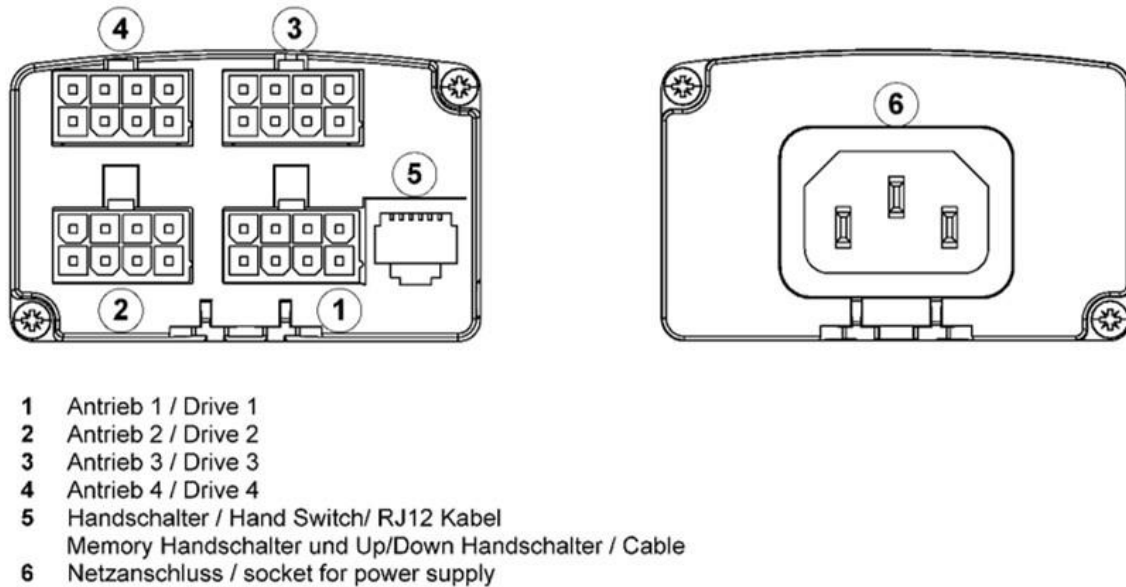

Figure 24 Connections of the electrical controller
- ➔ For the synchronous operation of the system, a RJ12 cable must be connected to each controller (Figure 24, connection No. 5). Then both RJ 12 cables of the controllers have to be connected to the Sync-Y-Adapter (Figure 25 connection No. 1 and No. 2).
- ➔ Connect the Plug of the RJ12 cable to the matching input of the (Figure 24 No. 5) to the Sync-Y-Adapter (Figure 25 connection No. 1 and No. 2)
- ➔ Connect the plug of the lifting elements with electrical controller (Figure 24; connection No. 1-4)
- ➔ Connect the power cables to the appropriate input of the electrical controller (Figure 24; connection No. 6)